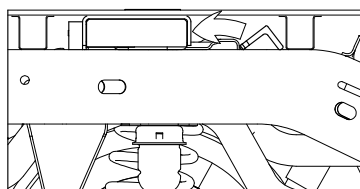

Figure D2: (Cut-away view)
2. **Install the front cross member.** Center the cross member in the truck so that the holes in the cross member will line up with the slots in the center. Using an adjustable wrench or other means, stand the cross member up so that leg of the angle with the holes is vertical. Slide the cross member back against the center, see Figures D2 and D3. The wiring harness should be off the top of the frame to the inside. Make sure the harness does not get pinched between the frame and the hitch parts. Attach the center and the cross member with two 1/2" x 2-1/4" long bolts in the two center holes only. The bolt heads must be toward the rear of the truck. It may be necessary to retract the latch pin to make room to insert the bolts into the center section. Add a flat washer, lock washer, and finish nut to both bolts and hand tighten. Do not fully tighten at this point.